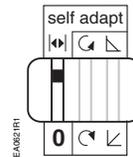

Figure 13. Self-adapt Switch in the On Position.
2. Set the self-adapt DIP switch to  (ON). See Figure 13.